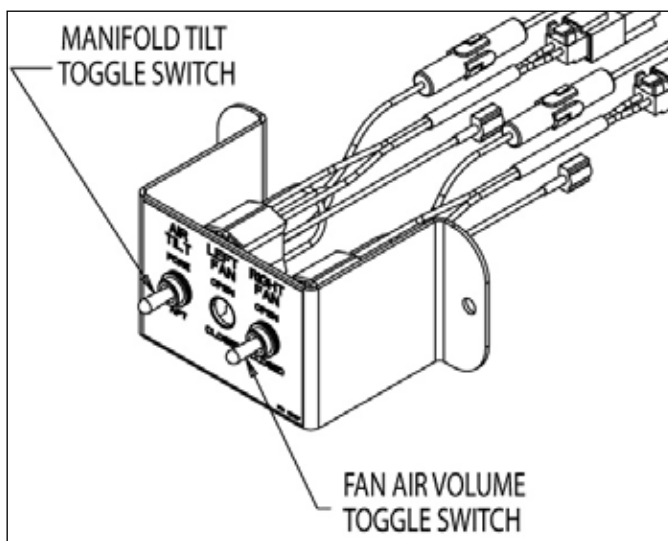

Figure 42, Manifold tilt/air volume toggle switch
1. Moving the toggle switch to the FORE position (Figures 42 & 43) extends the shaft of the electric actuator forward. This rotates the manifold CW which directs the air tubes towards the front of the header. See Section 5.2.1 for the center stroke position which points the air tubes directly behind the cutterbar.
2. Moving the toggle switch to the AFT position (Figures 42 & 43) retracts the shaft of the electric actuator backward. This rotates the manifold CCW, which directs the air tubes towards the back of the header.